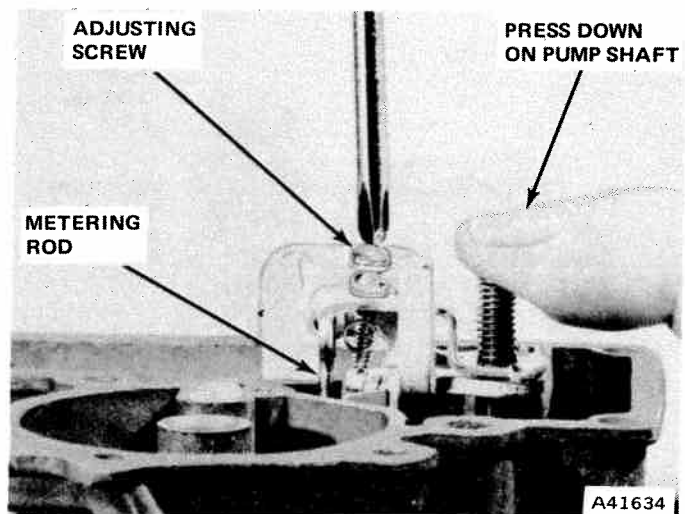

Fig. 4-25 Metering Rod Adjustment
(1) Remove carburetor air horn and gasket from carburetor.
(2) Back out idle speed adjusting screw until throttle plate is closed tight in throttle bore.
(3) Press down on end of pump diaphragm shaft until assembly bottoms.
(4) To adjust metering rod, hold diaphragm assembly as in step (3), then turn rod adjustment screw (fig. 4-25) until metering rod just bottoms in body casting.